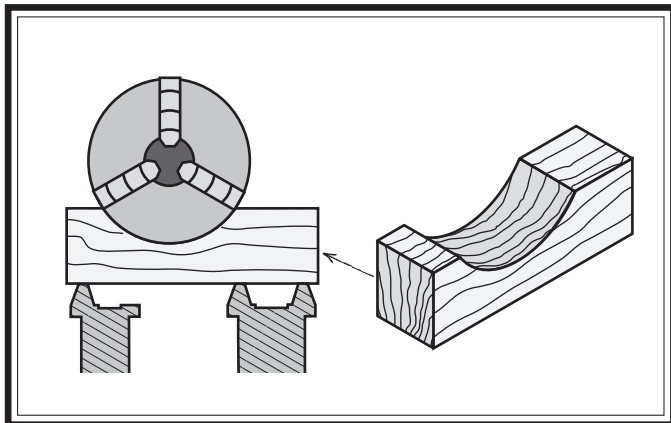

Figure 4. Wooden chuck support cradle.
2. Lay a chuck cradle (see **Figure 4**) or plywood under the chuck and over the bedway to protect the precision ground surfaces from damage and reduce the risk of fingers getting pinched.